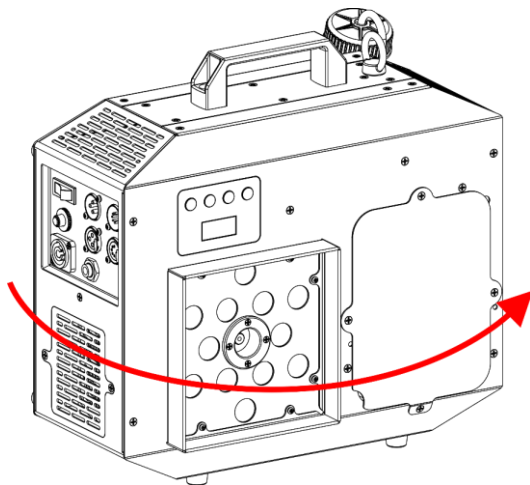

Fig. 20
- 15) Turn the device and go to the backside, as shown in Fig. 20.